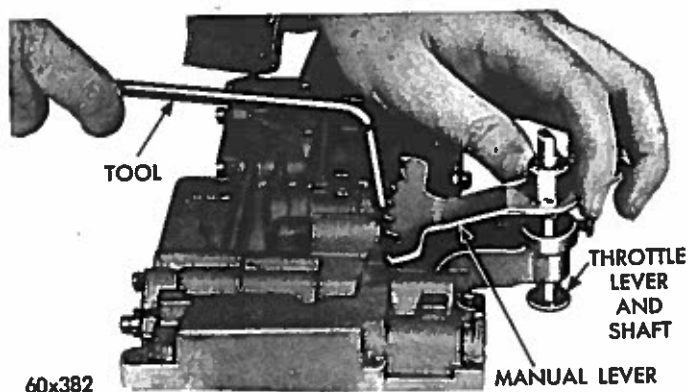

Fig. 56—Installing Detent Ball, Spring and Manual Lever (Tool C-3765)
(10) Install throttle lever and shaft on the valve body (Fig. 56). Insert detent spring and ball in its bore in the valve body. Depress ball and spring with Tool C-3765 or similar tool and slide manual lever over throttle shaft so that it engages manual valve and detent ball. Install the retaining E-clip on the throttle shaft.
(11) Position the valve body assembly on the holding stand.